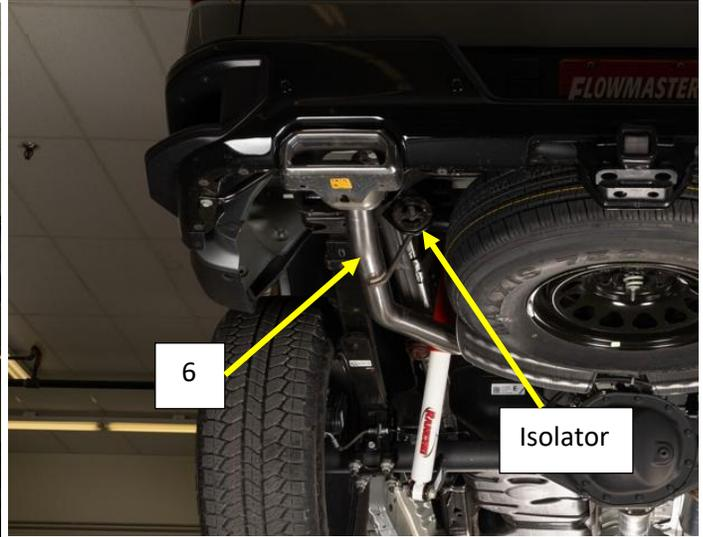

Figure.19
23. Install the Left rear tail pipe isolator on to the hanger rod and mount the isolator to the frame rail. **Fig.19**